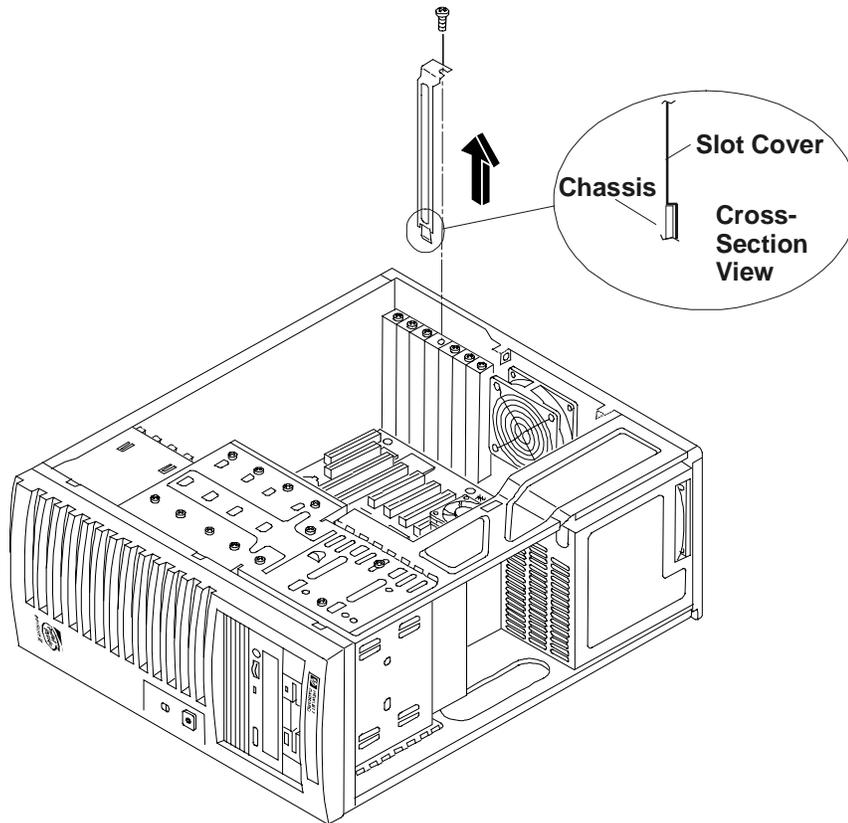

Figure 5-2. Removing the Accessory Slot Cover
7. Use the T-15 driver or flat blade screwdriver to remove the PCI slot cover for each slot to be used, and store it for future use. See Figure 5-2.